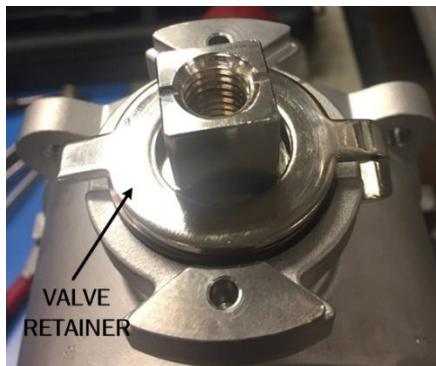

Figure 6.
- c. Install valve retainer (per match mark/note). See Figure 6.